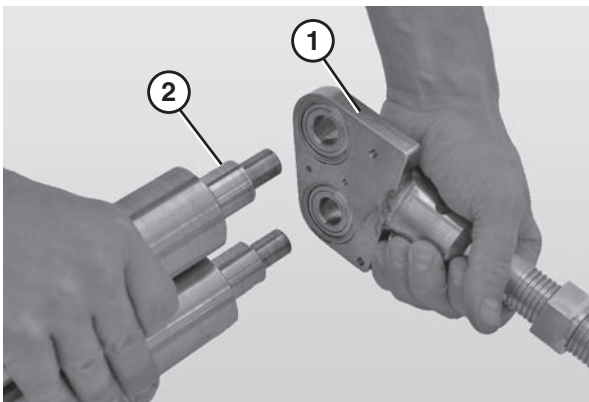

Figure 90
6. Slide the nose bar shafts (**Figure 90, item 1**) off the nose bar spindles (**Figure 90, item 2**).